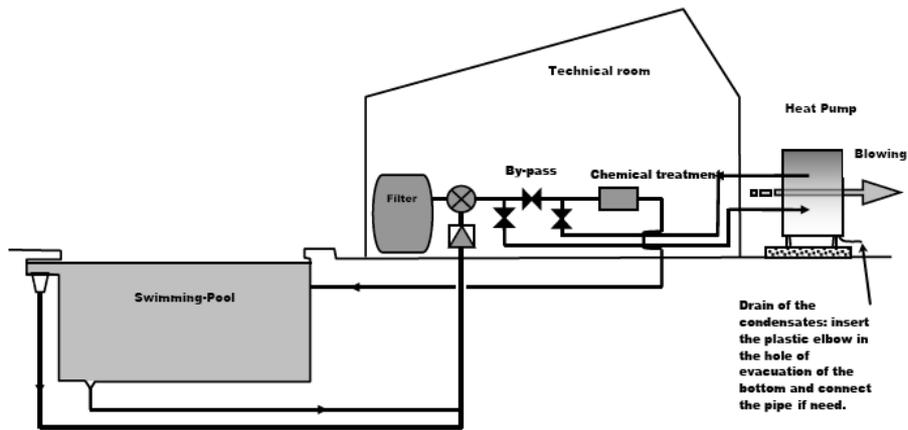

Figure 6: Typical hydraulic circuit part layout.
- Hydraulic circuit bypass valve, see Figure 6.
⚠ Minimum heat pump water input flow must not be under the value required for the model in question. See Paragraph 3. For system layouts such as that in Figure 6, water flow can be regulated using the bypass valve.